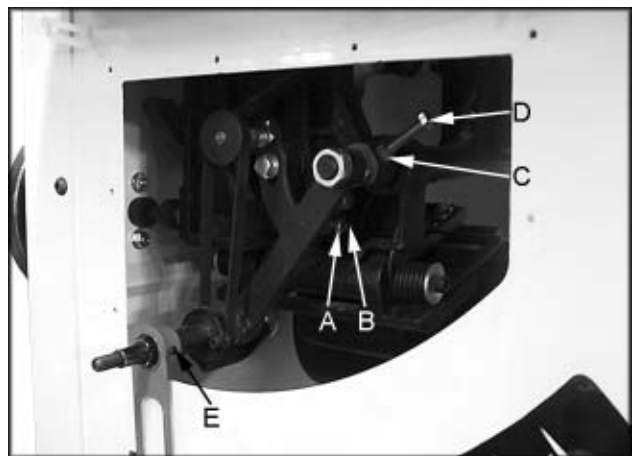

Fig. 32
5. If blade is not at 90°, remove the front cover, loosen lock nut (A, Fig. 32) and turn set screw (B, Fig. 32) on the front trunnion in, or out. The set screw should stop against the table when the blade is 90° to the table.
6. Tighten the lock nut (A, Fig. 32) and recheck the blade with a square.
7. Check the accuracy of the pointer on the angle scale and adjust, if necessary. Loosen set screw (E, Fig. 32) to change the pointer position.
9. If the blade is not 45°, remove the front cover. Loosen lock nut (C, Fig. 32) and turn set screw (D, Fig. 32) on the front trunnion in, or out. The hex cap bolt should stop against the front trunnion bracket when the blade is 45° to the table.
10. Check the accuracy of the pointer on the angle scale and adjust, if necessary. Loosen set screw (E, Fig. 32) to change the pointer position.